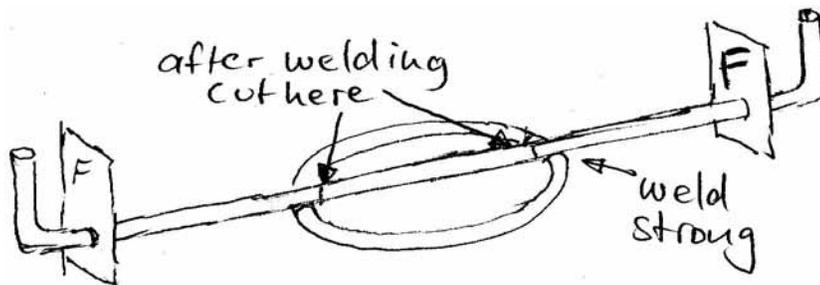

Figure 9: The pot holder part
4. Put the main bar on the floor so that the ends are pointing vertical up. Place the \varnothing 12 mm pot-holder ring horizontal and central (using the 17 cm marks) on the bar and weld the contact points **very strong**. The sheet metals have to be outside of the ring, one on each side. (see figure 9)